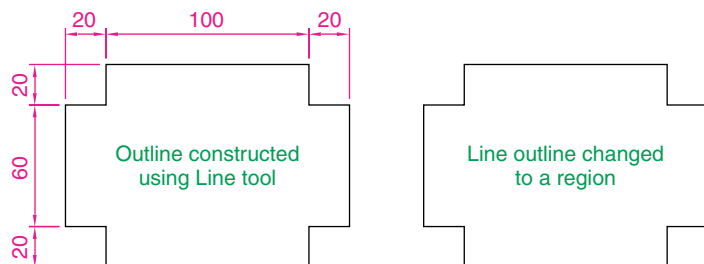

Fig. 13.7 First example – Line outline and Region
First example – Line outline and Region (Fig. 13.7)
1. Construct the left-hand drawing of Fig. 13.7 using the **Line** tool.
And the **Line** outline is changed to a region – right-hand drawing of Fig. 13.7.
The three examples of forming regions given in Figs. 13.7, 13.9 and 13.11 are used here to show results of using the **Extrude** tool.